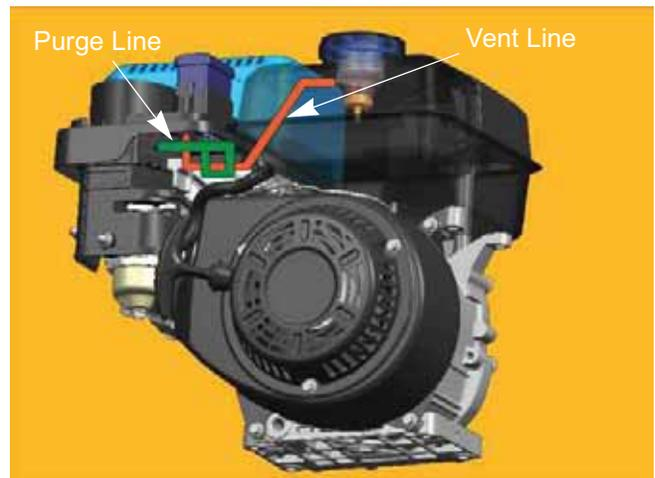

Figure 4.18
3. The vapors are carried to the charcoal canister by a vacuum line (colored orange in Figure 4.18).
5. When the engine is running, the vacuum between the air filter and the carburetor is used to draw the vapors out of the charcoal canister through the purge line, colored green in Figure 4.18. This temporarily enriches the fuel/air mixture, and is used in the combustion process.